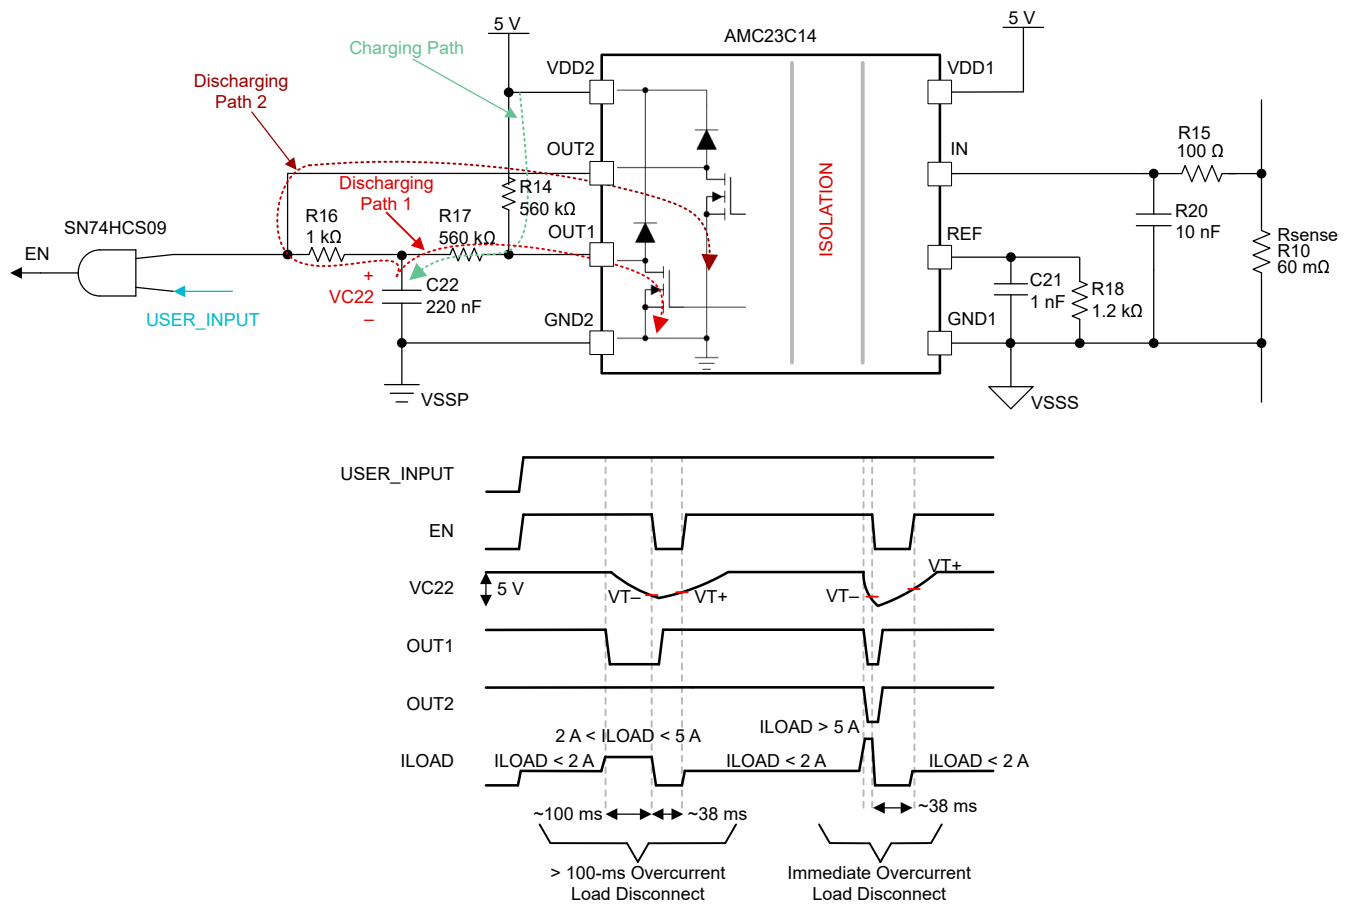

図 2-4. Overcurrent Protection
図 2-4 shows a detailed analysis of the charging and discharging paths. When the current load (ILOAD) through R10 is higher than 5 A, a voltage drop of 300 mV is created in R10. OUT2 is pulled to ground when the voltage drop is greater than 300 mV. When OUT2 is Low-Z, the input of the AND gate (SN74HCS09) is immediately pulled to ground, the output of the AND gate (EN) is asserted low and the load is disconnected. Discharge Path 2 in 図 2-4 shows how C22 is discharged when OUT2 is pulled low. R16 is placed to limit the inrush current from C22 through OUT2. Since OUT1 and OUT2 are pulled low, C22 discharges below the negative switching threshold ( $V_{T-}$ ) of the AND gate in 180- $\mu$ s as the following equation shows. Note that the following equation only accounts for Discharging Path 2 for simplicity.
Discharging Path 1 in 図 2-4 shows that when the system is operating under normal conditions (current load less than 2 A), OUT1 is High-Z and C22 is charged to 5 V (VDD2). When the current is greater than 2 A, OUT1 is Low-Z and C22 begins to discharge through R17. The time to discharge C22 should be at least 100 ms before reaching the maximum switching threshold for SN74HCS09 of 2.2 V as shown in 式 9.